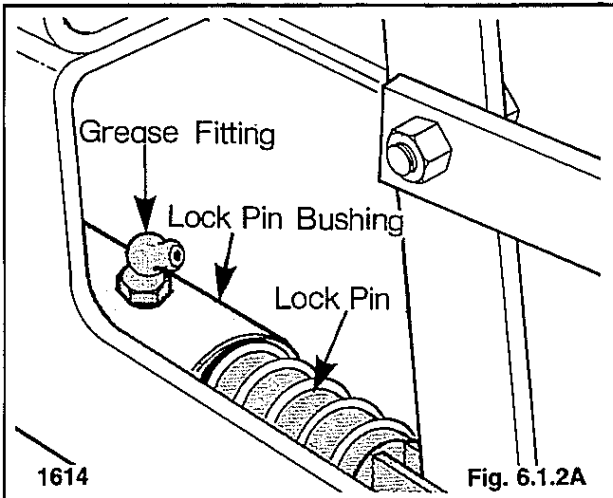

Fig. 6.1.2A
3. Lubricate the grease fittings on each of the lock pin bushings with a good quality multi-purpose lithium based grease until excess shows (Fig. 6.1.2A).